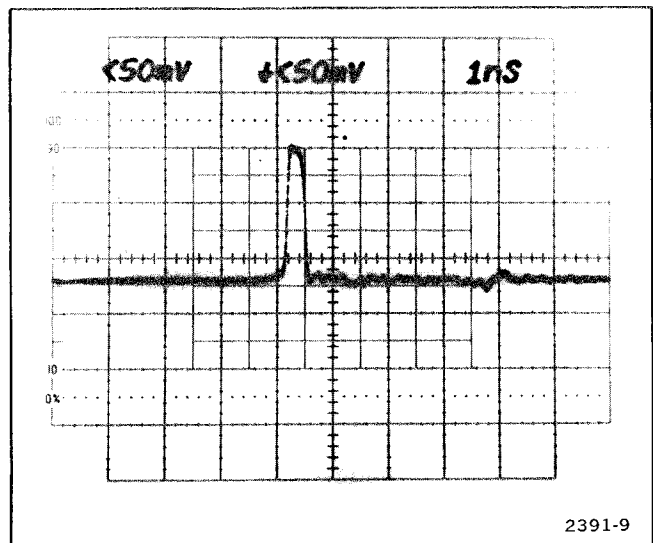

Figure 5-3. Short pulse before cancellation.
- 8) Adjust both 7S11's delay to reduce or cancel the short pulse. Refer to Figure 5-3.